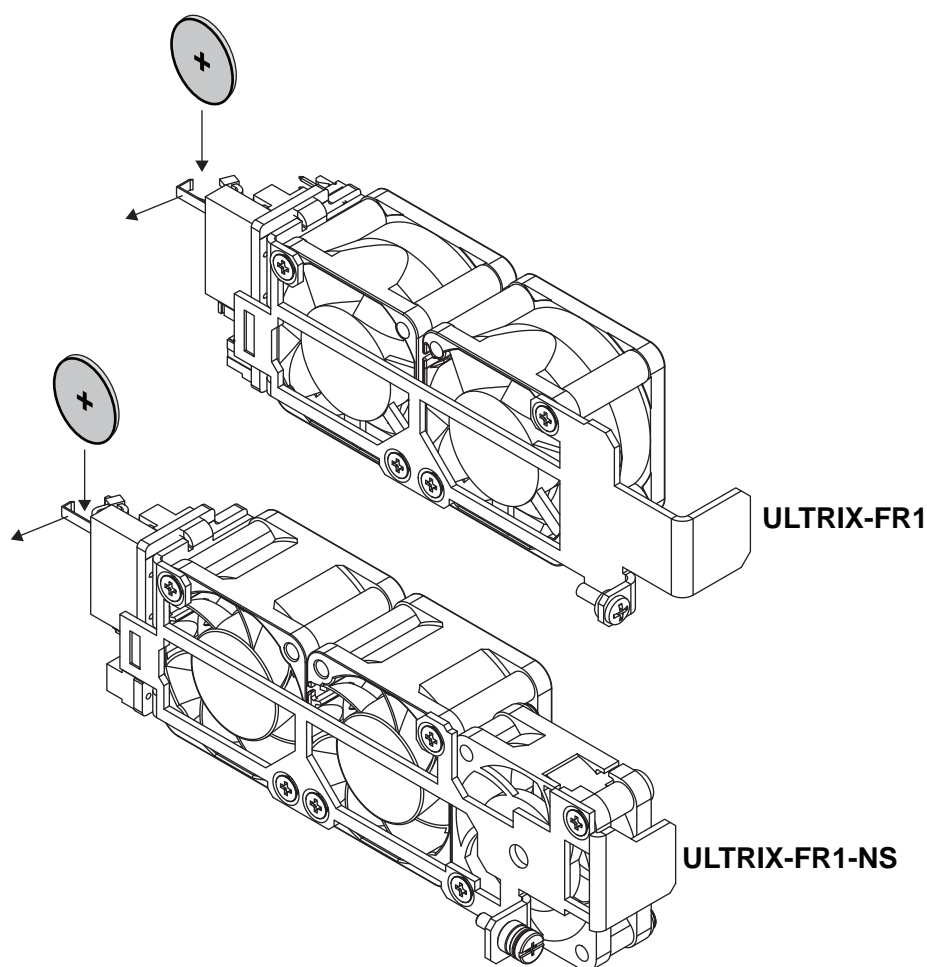

Figure 26.17 New Battery Orientation —ULTRIX-FR1 and ULTRIX-FR1-NS
1. Hold the battery in one hand and orient it so that the Positive side (+) faces away from you. (**Figure 26.17**)